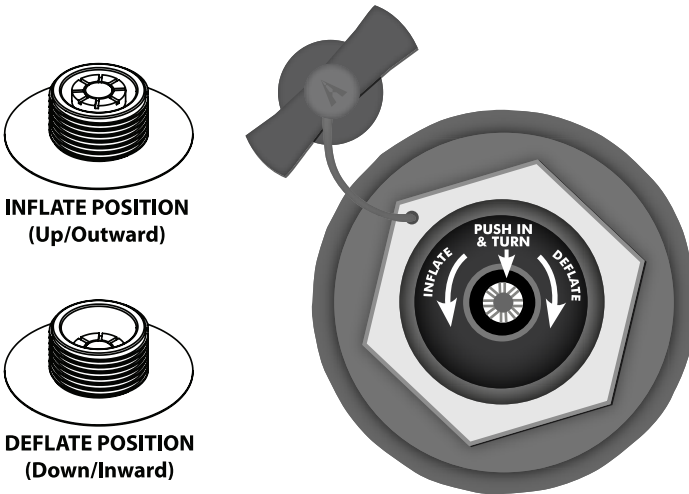

Figure 1. Inflate/Deflate Spring Valve
- Starting with Chamber 1, check to be sure that the valve plunger is UP or in the INFLATE position (*See Figure 1 on previous page*). Inflate until the kayak begins to lift off of the ground and take shape, then close cap.
Use either a bellows style foot pump or two-way hand pump to inflate to your kayak. Be sure that the fitting on the pump hose fits snug in the valve on the kayak. **NEVER USE COMPRESSORS, CO₂, OR COMPRESSED AIR AS THEY MAY DAMAGE YOUR KAYAK.** The main chambers use high-end military style, plunger valves (See Figure 1).
2. Push stems inward and rotate to deflate position (See Figure 1).